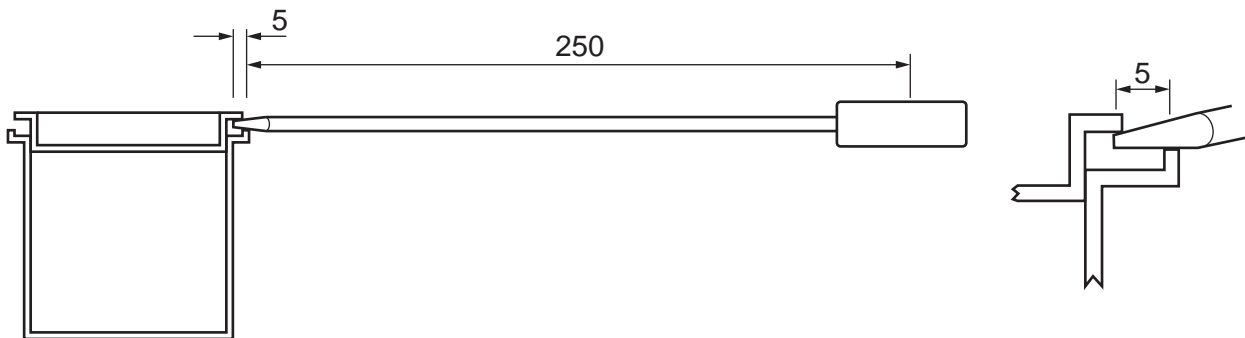

Fig. 4
5 Fig. 4 shows details of a paint tin lid being opened with a screwdriver.
- (b) Fig. 4 can be used as a worked example to explain the term *mechanical advantage*. Use a diagram and appropriate calculations to explain the term *velocity ratio*. [6]